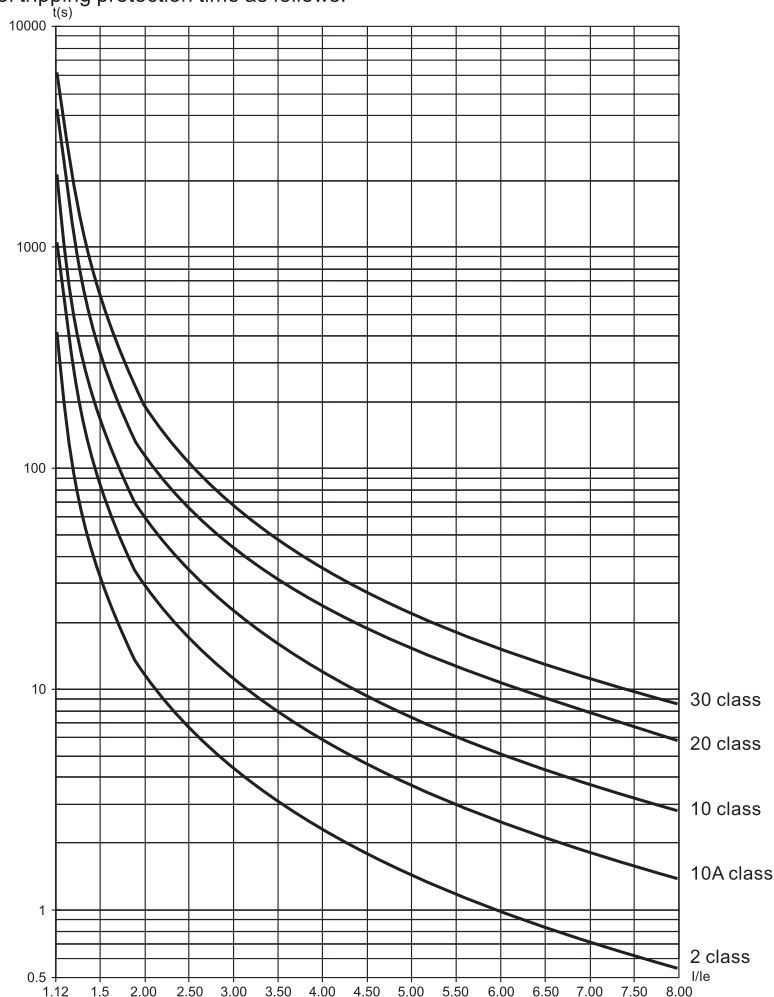

Fig.4.1 Standard thermal-overload protection curve
**F12 Over L. Class** Settable range: 0: class 2; 1: class 10A; 2: class 10 (standard application); 3: class 20 (for heavy duty); 4: class 30 (for super heavy duty), set the thermal-overload protection class of soft starter to motor. Refer to Fig.4.1 Overload protection in page 27 for detailed curve.